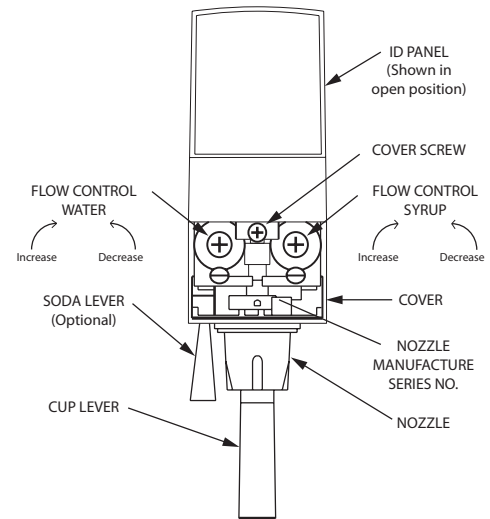

Figure 1
- B. The refrigeration unit should have been running for at least one (1) hour before you attempt to brix the valves. The drink temperature should be no higher than 40°F (4.4°C) when the brix is set. This is best done after the unit has made an ice bank.
- C. Slide up ID panel until flow controls are exposed (see Figure 1)
- H. Hold a Lancer brix cup under the syrup separator and dispense water and syrup into cup for four (4) seconds. Divide number of ounces (ml) of water in cup by four (4) to determine water flow rate per second
- I. To obtain the proper flow, use a screwdriver to adjust water flow control (see Figure 1).
- B. To obtain the proper brix, use screwdriver to adjust syrup flow control (see Figure 1).